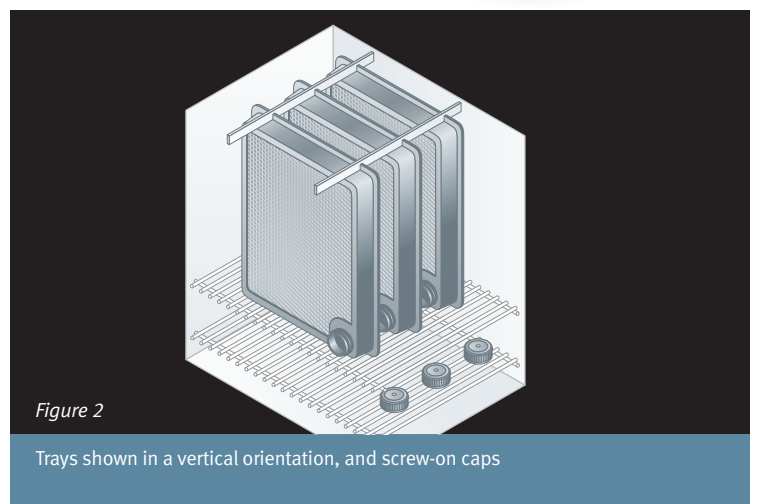

Figure 2
- Place screw caps top-side up in a single layer in the sterilizer. Do not stack (Figure 2).
- *For vertical placement*, place the trays vertically in the sterilizer, so they rest on the short edge of the plastic frame. To minimize distortion of the plastic frame, trays should be sufficiently supported to remain vertical during the entire autoclave cycle (Figure 2).